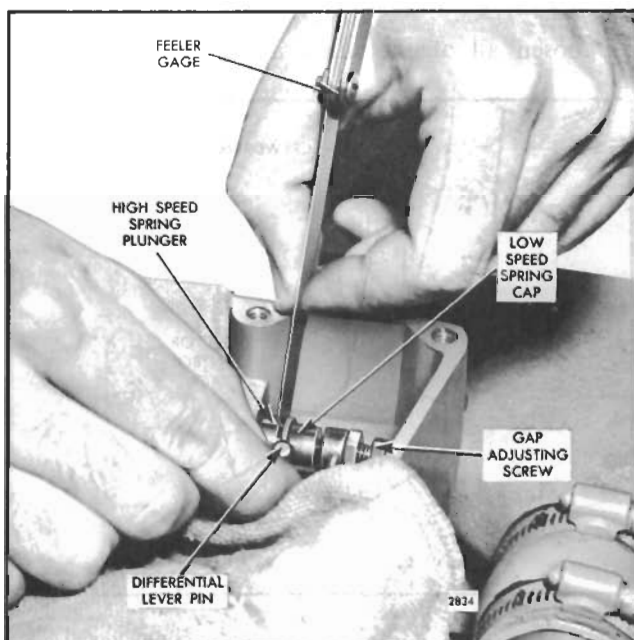

Fig. 1 - Adjusting Governor Gap
6. Check the gap between the low speed spring cap and the **high speed** spring plunger (Fig. 1) with a .0015" **feeler gage**. If the gap setting is incorrect, reset the gap adjusting screw. If the setting is correct, the .0015" movement can be seen by placing a few drops of oil into the governor gap and pressing a screw driver against the gap adjusting screw. Movement of the cap toward the plunger will force the oil from the gap in the form of a small bead.